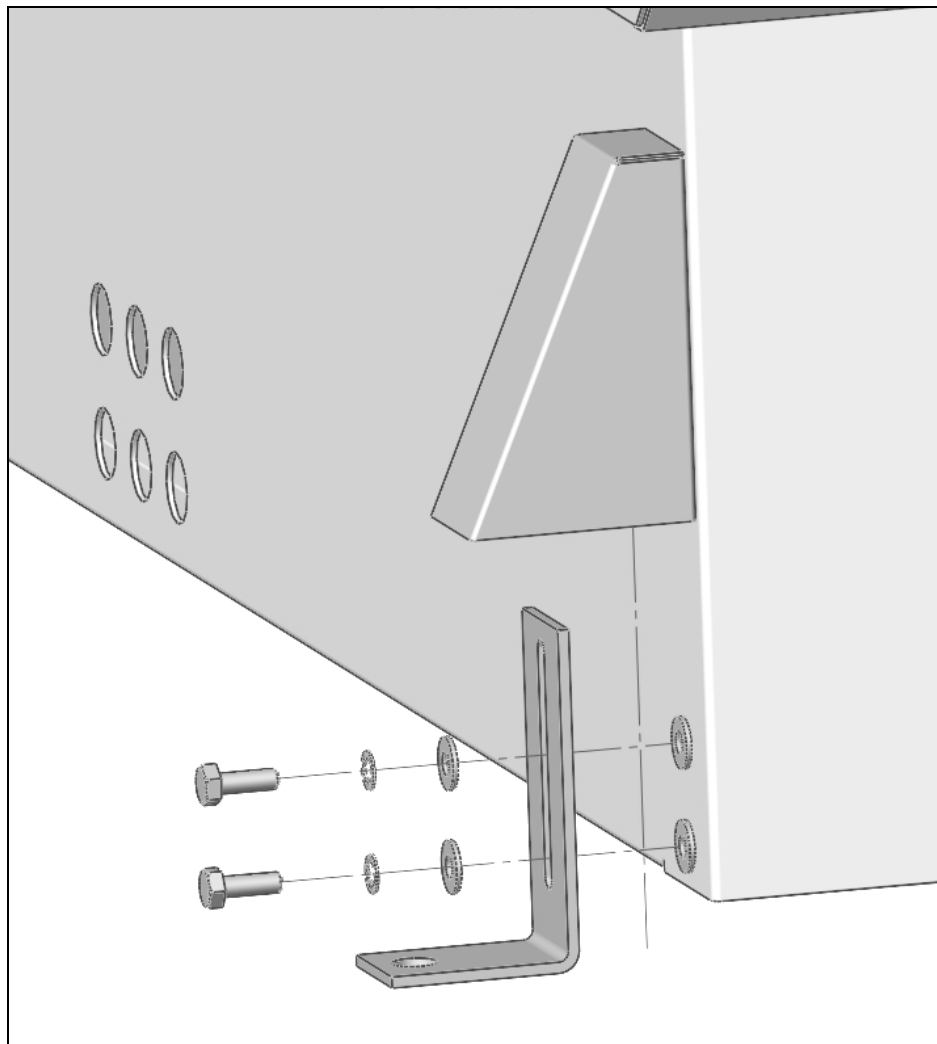

Figure 5: Rear Brackets
3. Attach Floor Anchor Brackets to the two rear corners of the lower skirt and the inner side of the front frame rail with the included 1/4"-20 bolts, lock washers and flat washers as shown in Figures 5 and 6.
7. Slide the rear bracket covers over the brackets as shown in Figure 5.